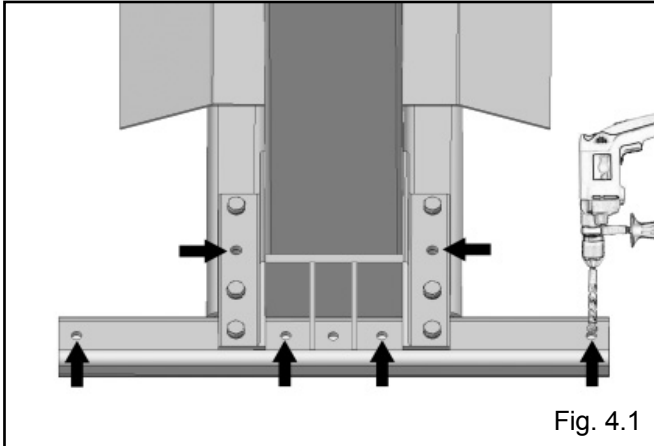

Fig. 4.1
1. Drill through the Legs (eight holes total / see arrows) in the concrete approximately 4-1/2" deep using a rotary hammer drill and 3/4" concrete drill-bit. Do not ream the hole or allow the drill to wobble. (See Fig. 4.1 - 4.3)